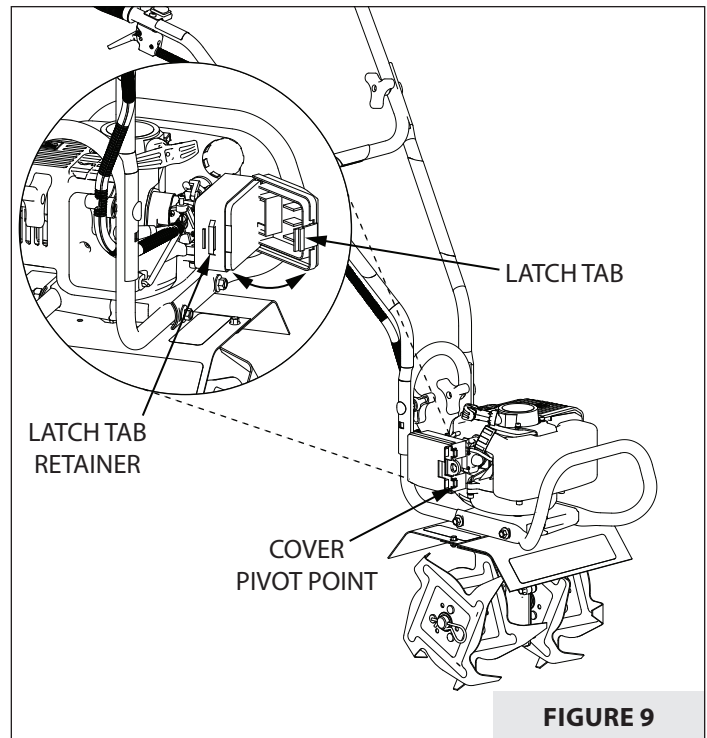

FIGURE 9
2. To remove air filter cover, squeeze the latch tab and rotate about cover pivot point to remove from air filter base. **SEE FIGURE 9.**